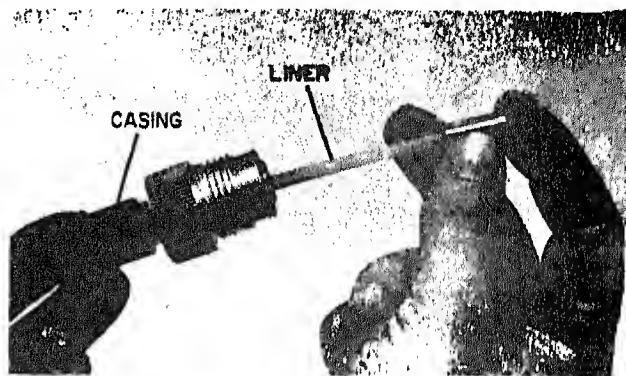

Figure 12. Installing Casing Liner
- Insert liner (Fig. 12) into casing assembly when aluminum wire is to be used.